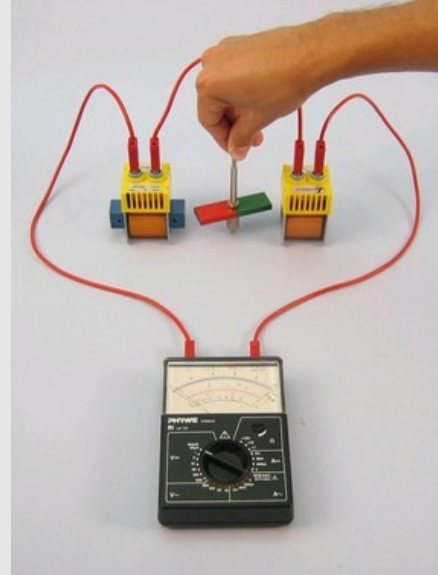

Fig. 3
- Push an I-core into one of the coils (cf. Fig. 3) and rotate the magnet again. Observe the measuring instrument. Note your observations under "Result - Observations 2" in the protocol.